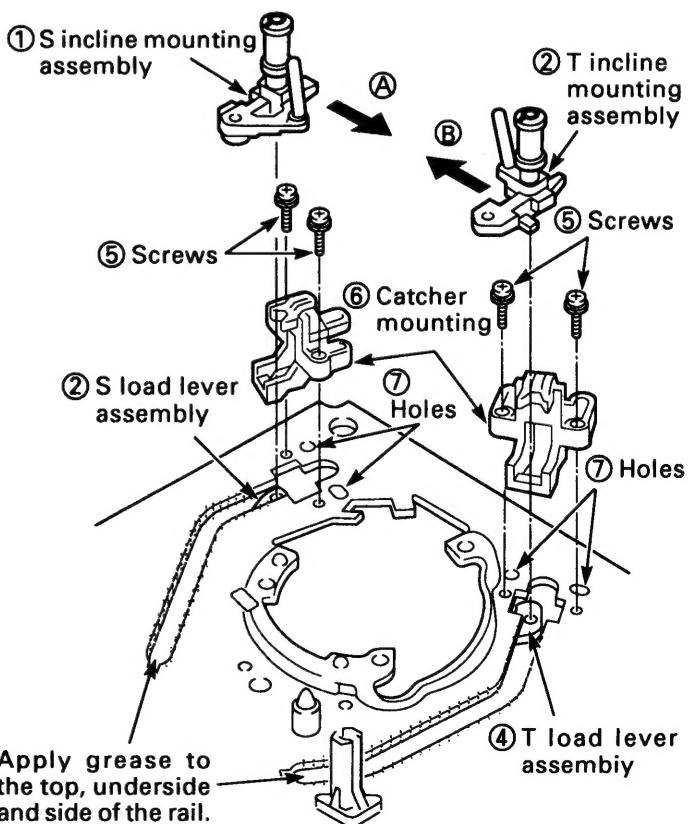

Fig.3-14-2
**3-14-2. S AND T INCLINE MOUNTING ASSEMBLIES (See Fig.3-14-2)**
- 3) Remove the four screws ⑤ and take off the two catcher mountings ⑥.
- 5) Shift the S incline mounting assembly ① slightly, in the direction of the arrow ⑧, then remove it from the S load lever assembly ②.
- 6) Shift the T incline mounting assembly ③ slightly, in the direction of the arrow ⑨, then remove it from the T load lever assembly ④.